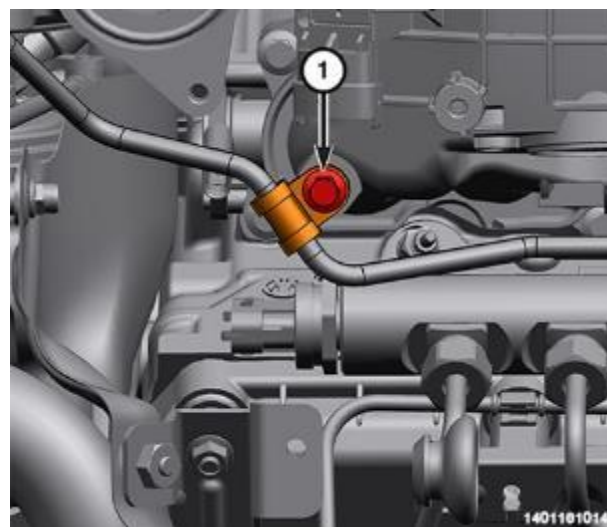

Figure 120 – Crossover Tube Bolt
52. Remove the fuel crossover tube bolt (1) (Figure 120).